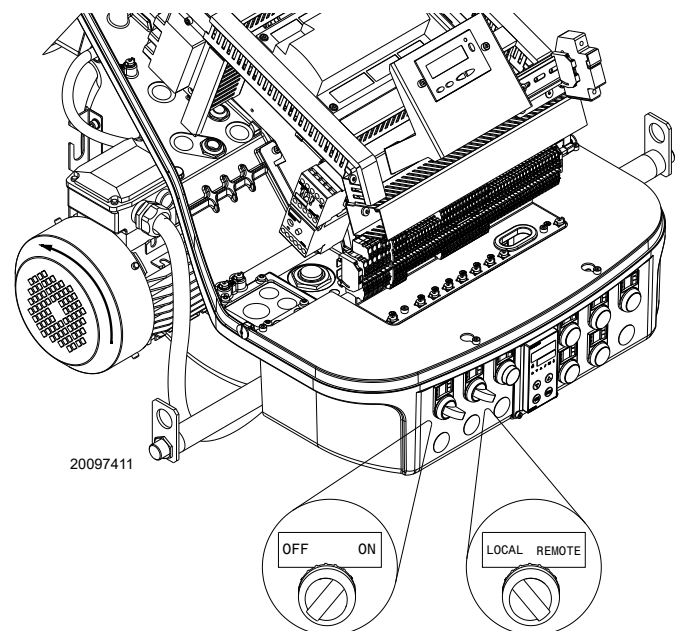

Fig. 33
Close the thermostats/pressure switches, set the parameters on the RWF 55 regulator. Please refer to the specific manual for this operation. Turn the switch of Fig. 33 to position “ON” and turn the switch of Fig. 33, page 26 to position “LOCAL”.
Make sure that the lamps or testers connected to the solenoids, or indicator lights on the solenoids themselves, show that no voltage is present. If voltage is present, stop the burner **immediately** and check the electrical wiring. When the burner starts, check the direction of the motor rotation, as indicated in Fig. 33, page 26.
As the burner is not fitted with a device to check the sequence of the phases, the motor rotation may be incorrect. As soon as the burner starts up, go in front of the cooling fan of the fan motor and check it is rotating anticlockwise. See Fig. 33.
- place the switch of Fig. 33, page 26 in position “0” and wait for the control box to carry out the switch-off phase;